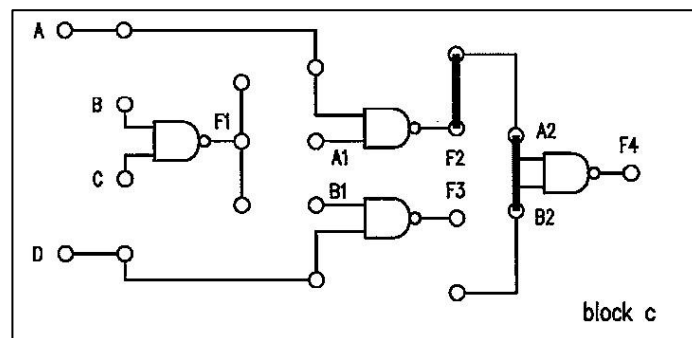

Figure 2.3
- 2.3 Construct the circuit as shown in **Figure 2.3**. Connect **A** to **SW0**, **A1** to **SW1** and **F4** to **L1**.